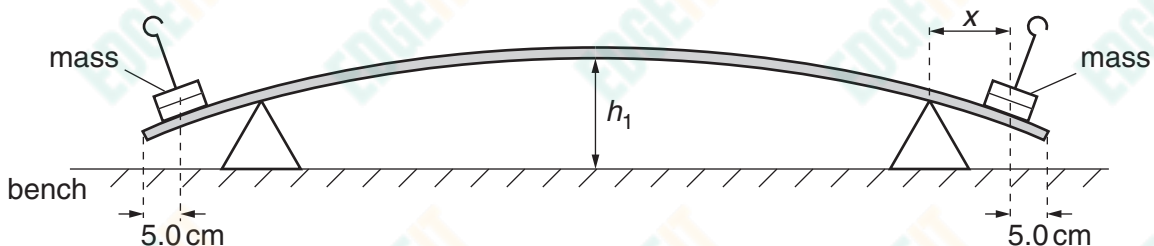

Fig. 2.2
- (b) (i) Position the two 500 g masses on top of the rule, with a mass 5.0 cm from each end of the rule, as shown in Fig. 2.2.